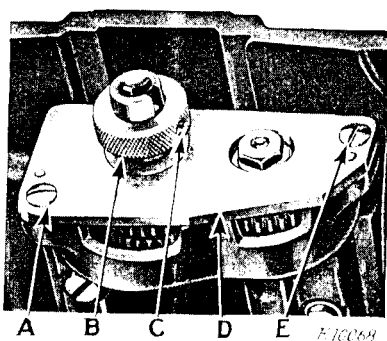
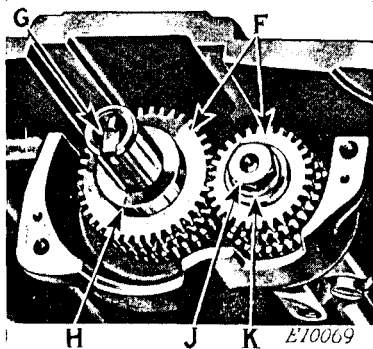
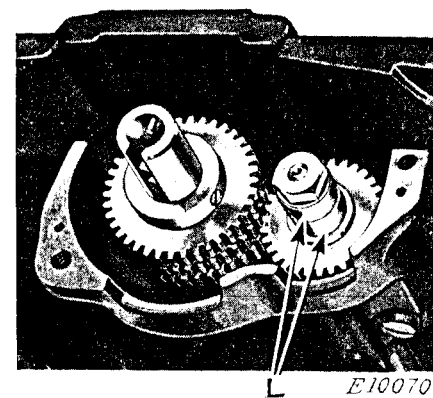

Fig. 15. Adjustment for Changing Length of Stitch
Fig. 16. Stitch Regulating Gears
Fig. 17. Showing Spacing Washers in Position in Machine
The three pairs of feed gears are located at the left underneath the bed of the machine, each pair of gears making a different length of stitch. The location of the knurled collar (B, Fig. 15) on its shaft determines which pair of gears is engaged. When the knurled collar (B) is at the outer end of its shaft, the outermost pair of gears (F, Fig. 16) is engaged. When the knurled collar (B) is in the central position on its shaft, the middle pair of gears is engaged. When the knurled collar (B) is set at
To change the length of stitch, raise the roller presser, then slide the knurled collar (B) to the desired position on the shaft and turn it in either direction until the engaging latch (G, Fig. 16) enters the notch in the gear.
When it is desired to limit the machine to making but one or two lengths of stitches, the spacing washers (L, Fig. 17) should be substituted for the feed driving pinions as instructed below:
Loosen the set screw (C, Fig. 15) and remove the knurled collar (B, Fig. 15). Take out the two screws (A and E, Fig. 15) and remove the cover plate (D, Fig. 15). Then loosen the set screw and remove the collar (H, Fig. 16), engaging latch (G, Fig. 16), nut (J, Fig. 16) and washer (K, Fig. 16).
When replacing the gears, place the medium size gear on the shaft and the largest of the gears on the outside, at the same time replacing the pinion for making the desired length of stitch so that it meshes with its corresponding gear and setting the spacing washers (L, Fig. 17) opposite the gears which are to be disengaged. Then replace the engaging latch (G, Fig. 16), collar (H, Fig. 16) and washer (K, Fig. 16) and securely tighten the nut (J, Fig. 16). Replace the cover plate (D, Fig. 15) at the left of the gears, also replace the knurled collar (B, Fig. 15) and tighten the set screw (C, Fig. 15).